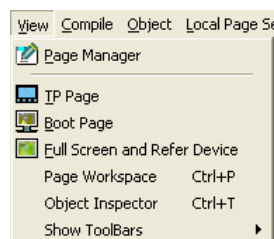

Figure 2-9 Menu bar—View
- **View:** It is used to view pages, and set the way in which a work environment is displayed, as shown in Figure 2-9. Please refer to section 3.3 for more information.